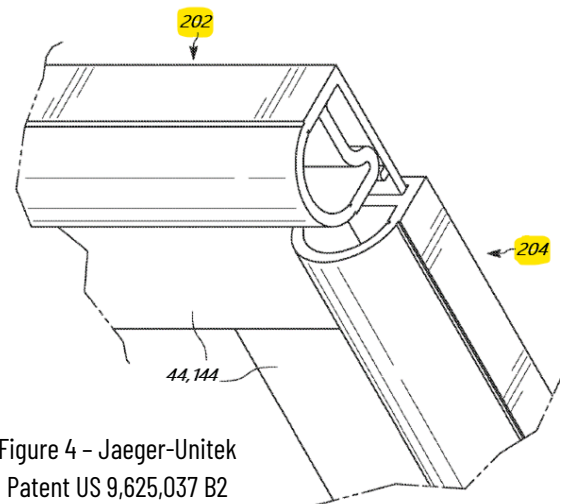

Figure 4 - Jaeger-Unitek Patent US 9,625,037 B2
By looking closely at Figure 4, we can see how the two integrated one-component RV slide-out seals create a novel method of installation. By “flipping,” the sealing bulb on the side seal (202) and inserting the wiper seal of the top seal (204) under the bulb and fastening as a result a watertight sealing system is fully achieved without any additional mechanical or gluing requirements.